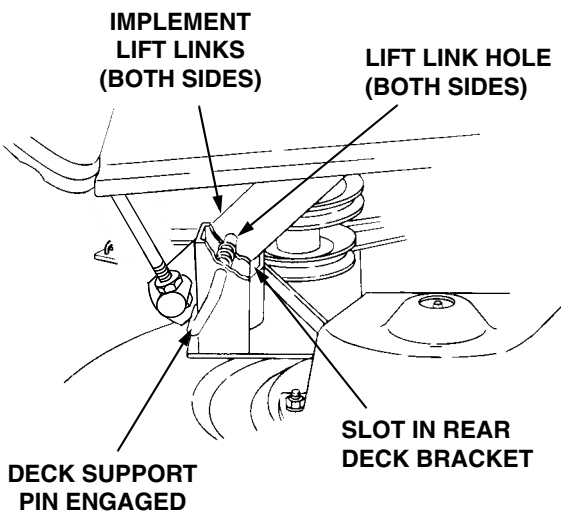

Figure 51
7. Carefully guide the tractor implement lift links (left and right) into the rear deck bracket slots (left and right) as the tractor implement lift handle is lowered to its lowest setting (Refer to Figure 51).
8. Pull both deck support pins outward and rotate rearward to disengage the outer surface of the rear deck brackets. Release the pins, making certain each deck support pin passes through the inner hole of the rear deck bracket. The spring tension will push the pins inward and, if aligned, through the hole in each implement lift link (See Figure 51).